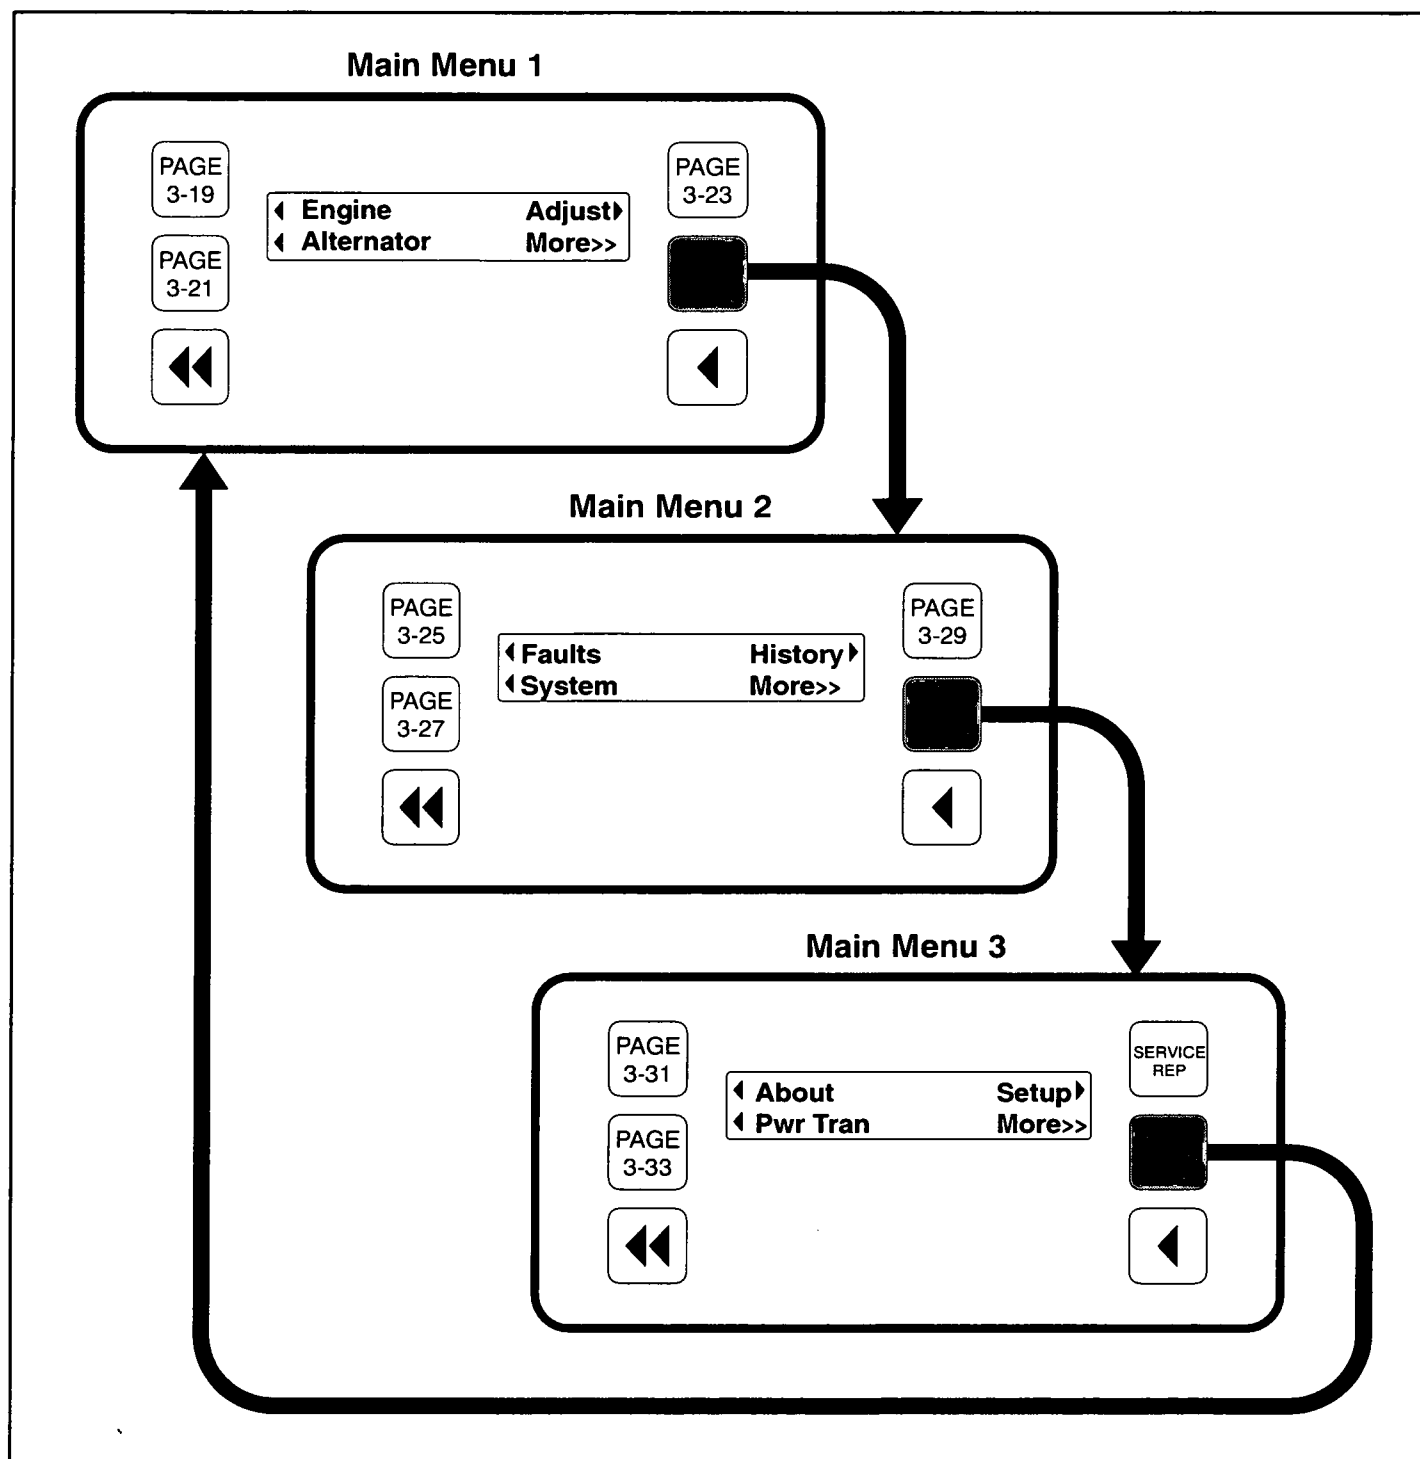
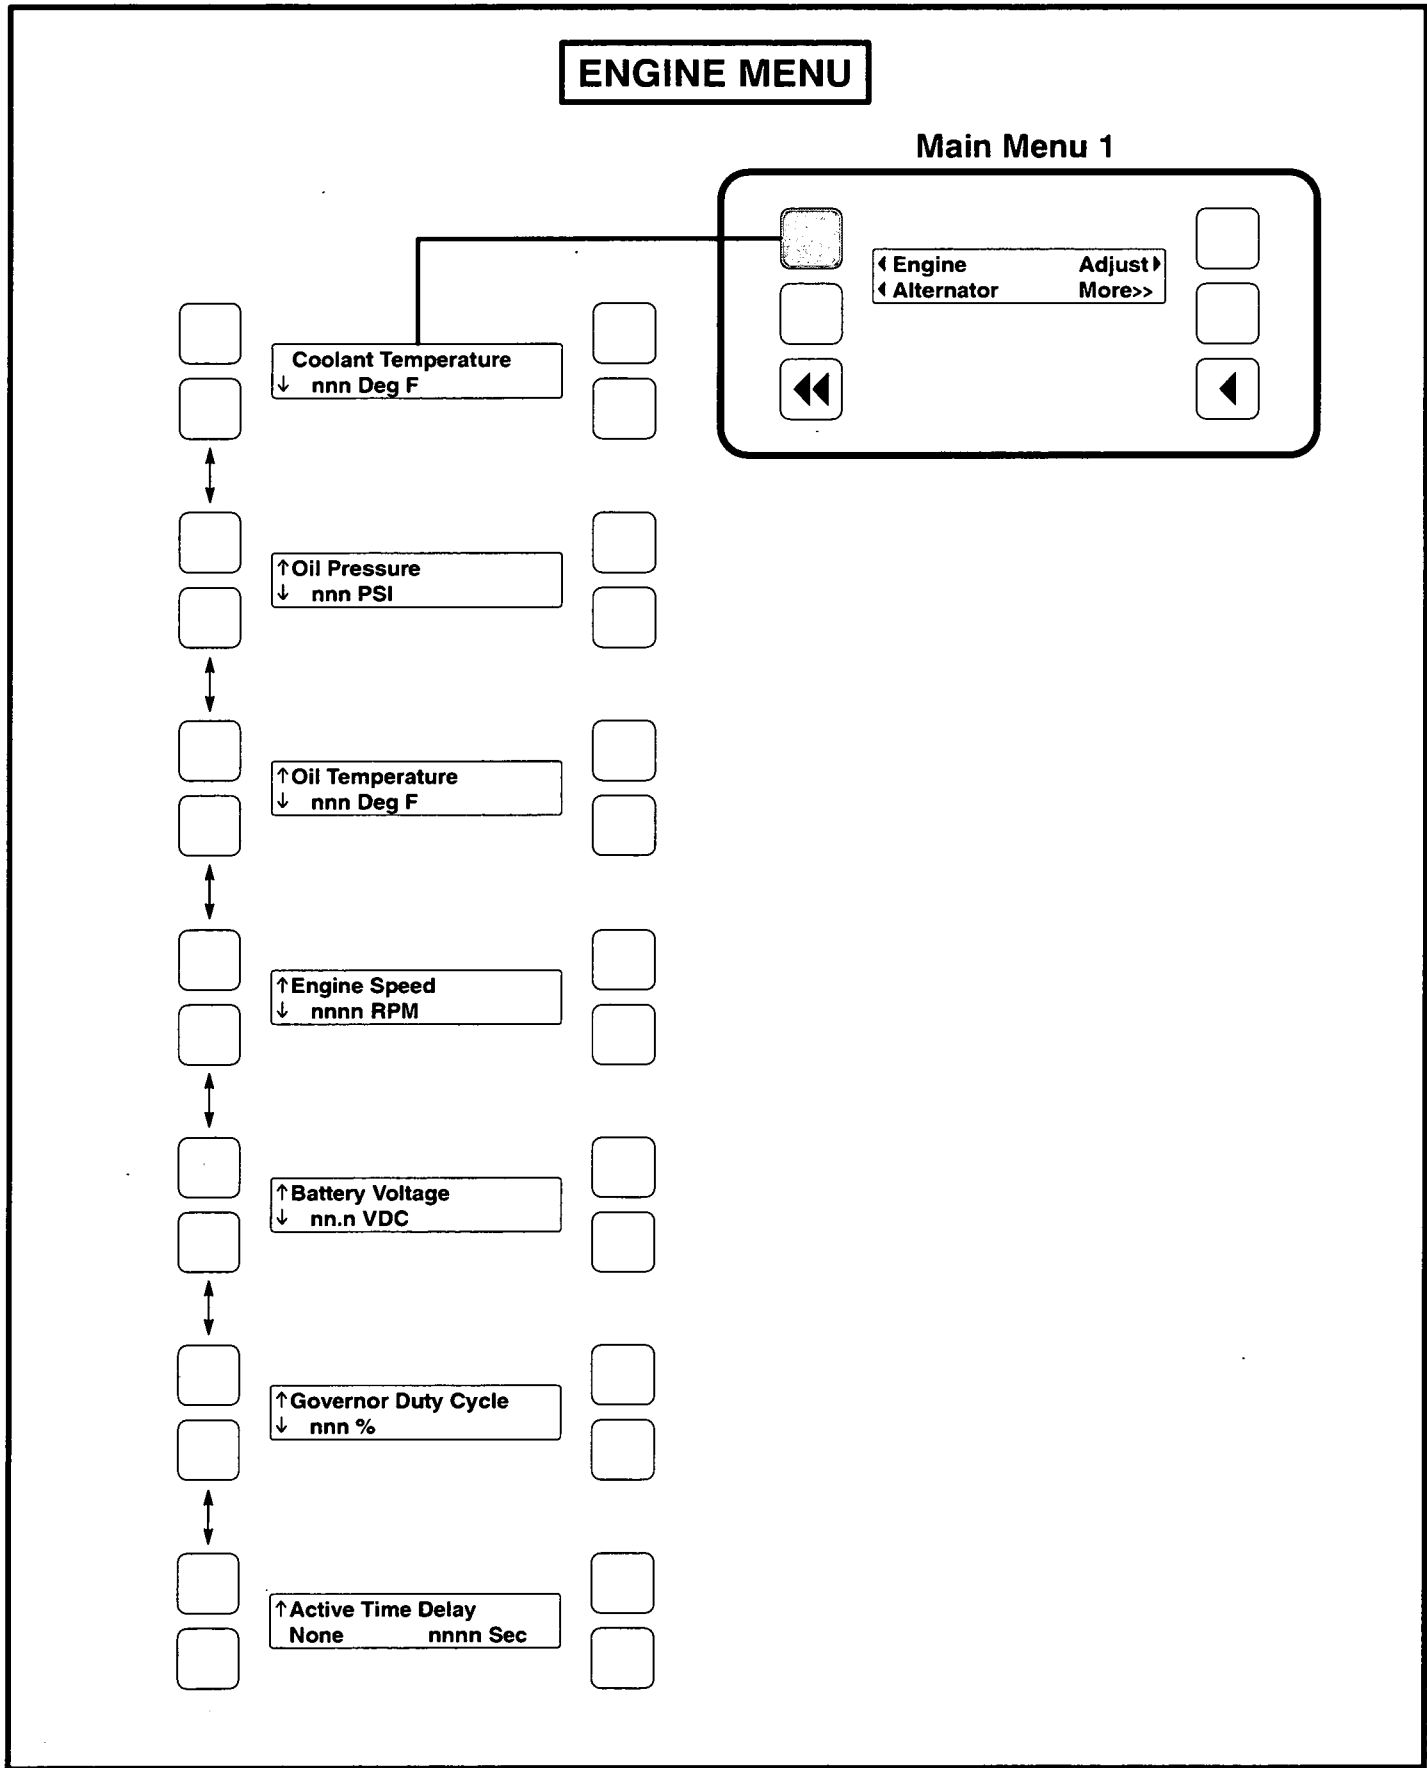

FIGURE 3-6. MAIN MENUS
FIGURE 3-9. ENGINE MENU
- In the digital display for main menus (Figure 3-6), the ◀ and ▶ symbols indicate that pressing the adjacent button causes the operating program to go to the selected submenu (e.g., Engine Menu in Figure 3-9).
- In the digital display, the More>> symbol indicates that pressing the adjacent button causes the operating program to go to the next main menu, as shown in Figure 3-6.
Home Button: Pressing this button causes the operating system to show Main Menu 1 (Figure 3-6) in the digital display.
Figure 3-6 shows the three major main menus available to the user. Figure 3-6 also includes references to pages in this section where you can find additional information on submenus. When viewing a submenu, you can press the previous main menu button at any time to view its main menu.
Figure 3-9 shows a block representation of the Engine menu. If you press the button next to the word "Engine" in the display, the first Engine submenu is displayed.